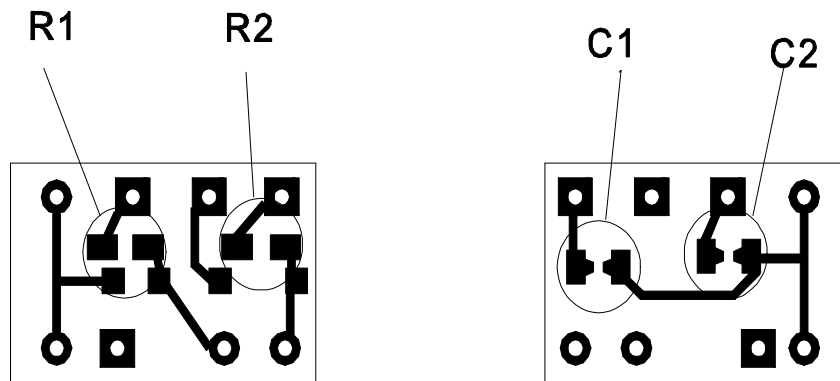

Figure 5. Filter Components
2. Use an electrical low-pass filter between the sensor and the inputs (IN+ and IN-) of the recorder. This reduces the high frequency signal from the sensor, which goes into the inputs. A pair of one-pole filters can be placed directly on the Accelerometer Termination Board, shown in Figure 5. Two resistor/capacitor pairs are required, one pair for IN+ and the other pair for IN-. It is important that  $R1 = R2$ , and  $C1 = C2$ . Select  $C1=C2=100\text{pF}$  and don't let each resistor exceed 100K ohms. It is good practice to set the cut-off frequency for at least the same value as the internal 4-pole filter of the recorder, but lower values can be selected. IMPORTANT NOTE: IF NO FILTER IS DESIRED, PLACE A JUMPER WHERE R1 AND R2 WOULD NORMALLY BE PLACED. The formula for the filter is: